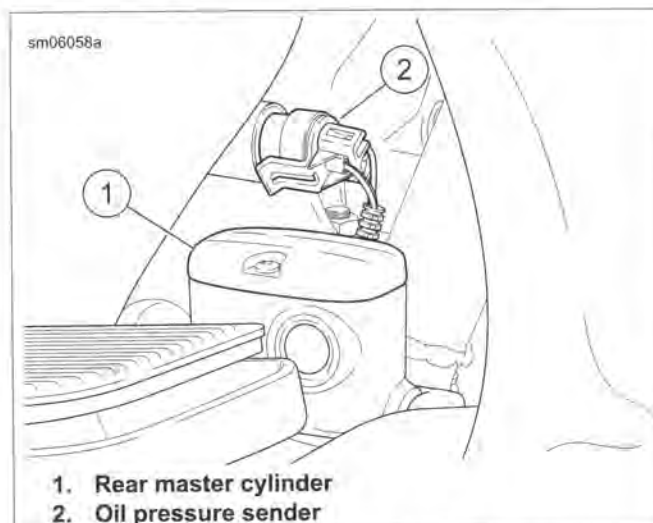

Figure 7-75. Oil Pressure Switch/Sender
1. See Figure 7-75. Remove connector (2) from oil pressure switch or sender.
1. See Figure 7-75. Start oil pressure switch or sender into crankcase bore. Tighten to 96-144 in-lbs (10.8-16.3 Nm).